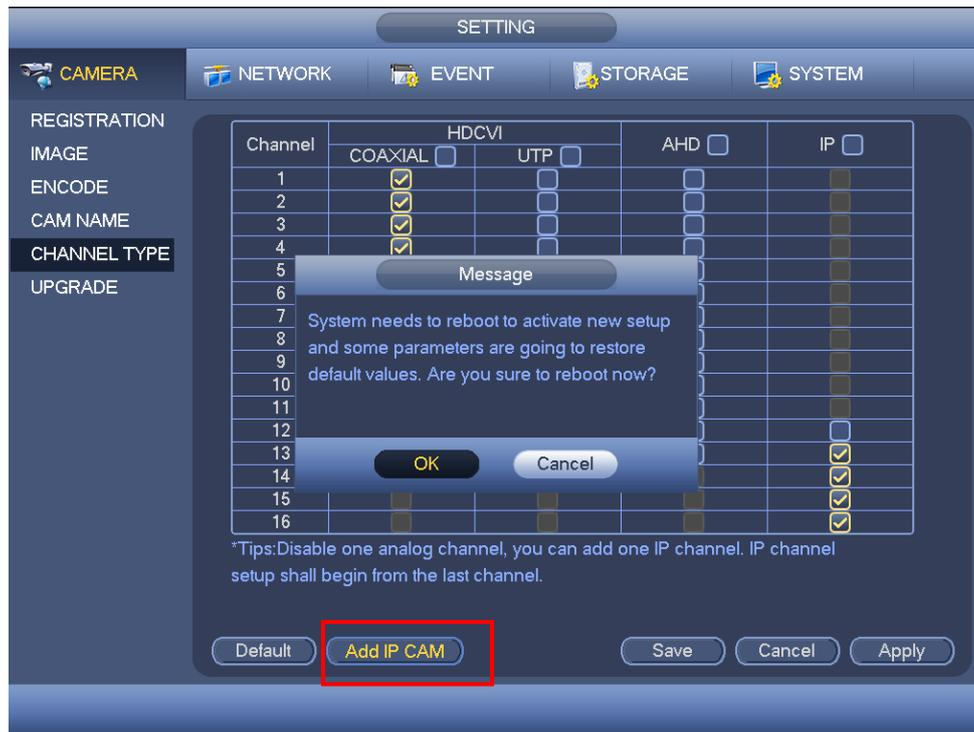

Figure 4-196
- Add IP CAM: Click it; you can add corresponding X IP channels. Here X refers to the product channel amount. Please refer to 1.3 Specifications for IP channel amount information. System needs to restart to activate new setup. See Figure 4-196.